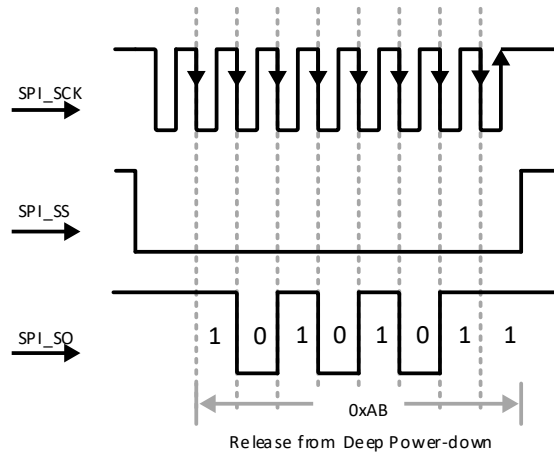
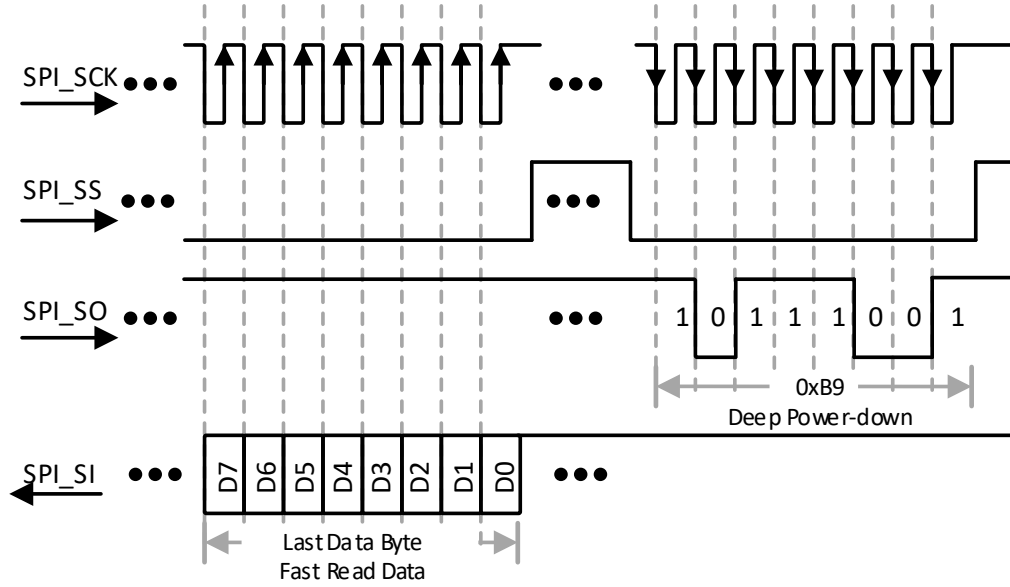

Figure 9.3. SPI Release from Deep Power-down Command
Figure 9.5. Final Configuration Data, SPI Deep Power-down Command
- For lowest possible power consumption after configuration, the PROM should also support the 0xB9 Deep Power Down command and the 0xAB Release from Deep Power-down Command (see Figure 9.3 and Figure 9.5). The low-power mode is optional. The PROM must be powered and ready to be accessed following iCE40 POR.
The iCE40 SPI interface starts by driving SPI_SS Low, and then sends a Release from Power-down command to the SPI PROM, hexadecimal command code 0xAB. Figure 9.3 provides an example waveform. This initial command wakes up the SPI PROM if it is already in Deep Power-down mode. If the PROM is not in Deep Power-down mode, the extra command has no adverse effect other than that it requires a few additional microseconds during the configuration process. The iCE40 device transmits data on the SPI_SO output, on the falling edge of the SPI_SCK output. The SPI PROM does not provide any data to the iCE40 device SPI_SI input. After sending the last command bit, the iCE40 device de-asserts SPI_SS High, completing the command. The iCE40 device then waits a minimum of 10 μ s before sending the next SPI PROM command.
After transferring the required number of configuration data bits, the iCE40 device ends the Fast Read command by de-asserting its SPI_SS PROM select output, as shown in Figure 9.5. To conserve power, the iCE40 device then optionally issues a final Deep Power-down command, hexadecimal command code 0xB9. After de-asserting the SPI_SS output, the SPI PROM enters its Deep Power-down mode. The final power-down step is optional; the application may wish to use the SPI PROM and can skip this step, controlled by a configuration option.